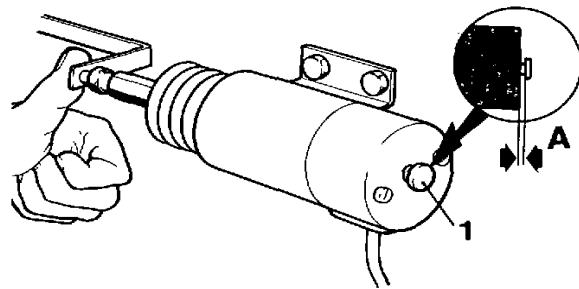

Fig. 210. Checking the contact gap
2. Press the solenoid pull rod in by hand and check that the stop position indicator (pin), 1 fig. 210 at the rear end of the solenoid is pushed out approx. 1.5–2 mm (0.06–0.08") when the pull rod is completely pushed back.